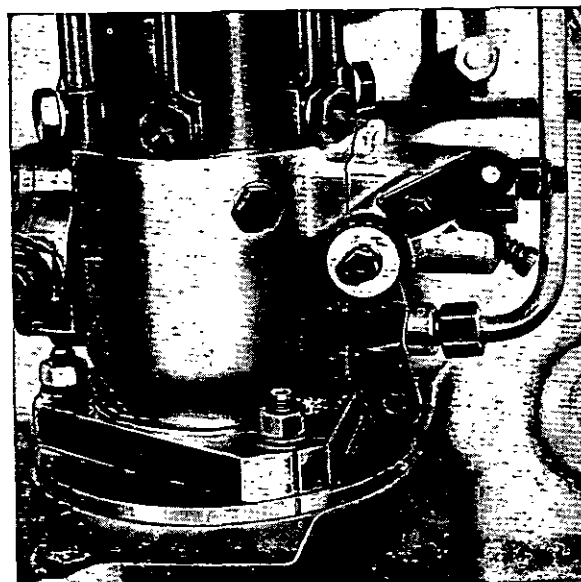

Fig. M.12.
2. Position the fuel pump so that the scribed line on the fuel pump flange aligns with the mark on the fuel pump adaptor plate (Fig. M.12). Secure the pump to the adaptor plate.